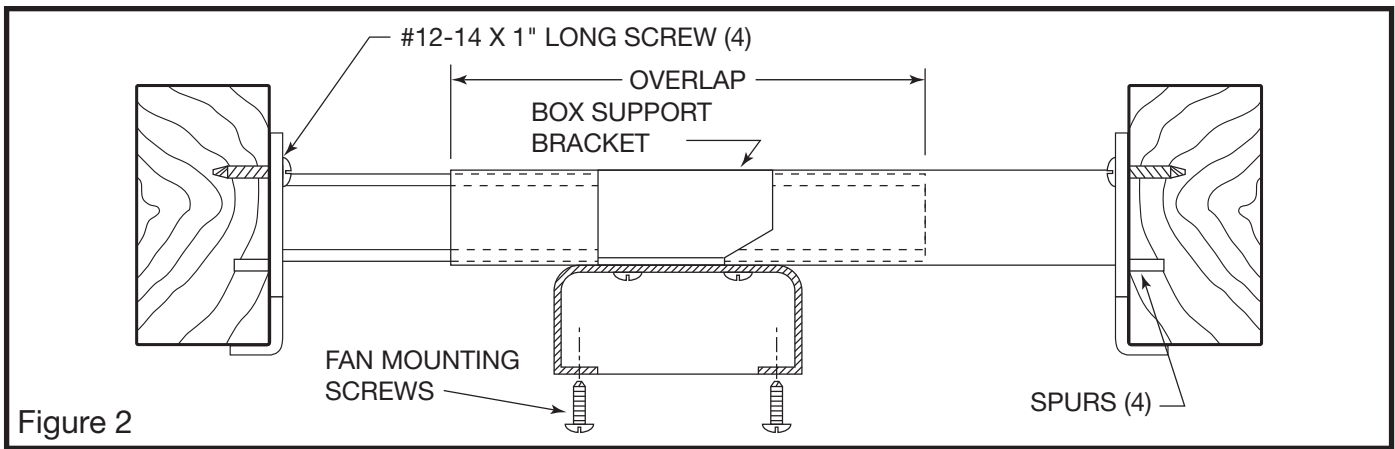

Figure 2
3. Using the holes in the end plates of the hanger as a template, drill (4) 7/64" diameter pilot holes 3/8" deep (MAX.). Use the wood screws provided and install securely through holes of the end plates. (See Figure 2).
**THE BOX SUPPORT BRACKET MUST BE POSITIONED WITHIN THE OVERLAP OF THE TWO CHANNELS (SEE FIGURE 2).**
- Drive the provided #10-32 x 5/8" fan mounting screws with lockwashers into each of the two holes through the box fastener (See Figure 2).
**WARRANTY:** Thomas & Betts sells this product with the understanding that the user will perform all necessary tests to determine the suitability of this product for the user's intended application. Thomas & Betts warrants that this product will be free from defects in materials or workmanship for a period of two (2) years following the date of purchase. Upon prompt notification of any warranted defect, Thomas & Betts will, at its option, repair or replace the defective product. Misuse, misapplication or modification of Thomas & Betts Products immediately voids all warranties.